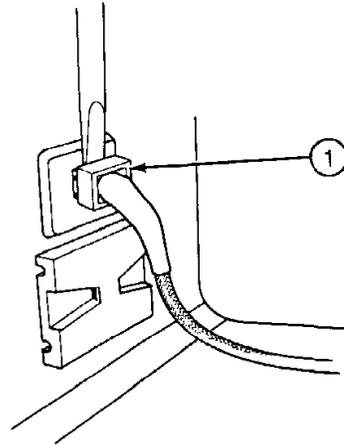
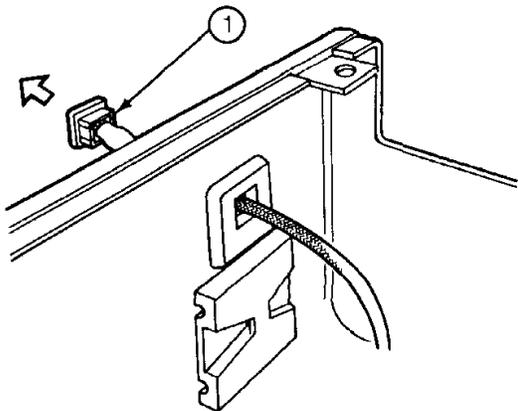

FIGURE 6
FIGURE 7A
10. With a flathead screwdriver, pry the cable clamp off the connector (Figure 6, Item 1) and slide it back down out of the way. Gently push the connector cable out through the slot in the cover as shown in Figure 7A, Item 1. Push the cable out far enough that the LED is free of the slot.